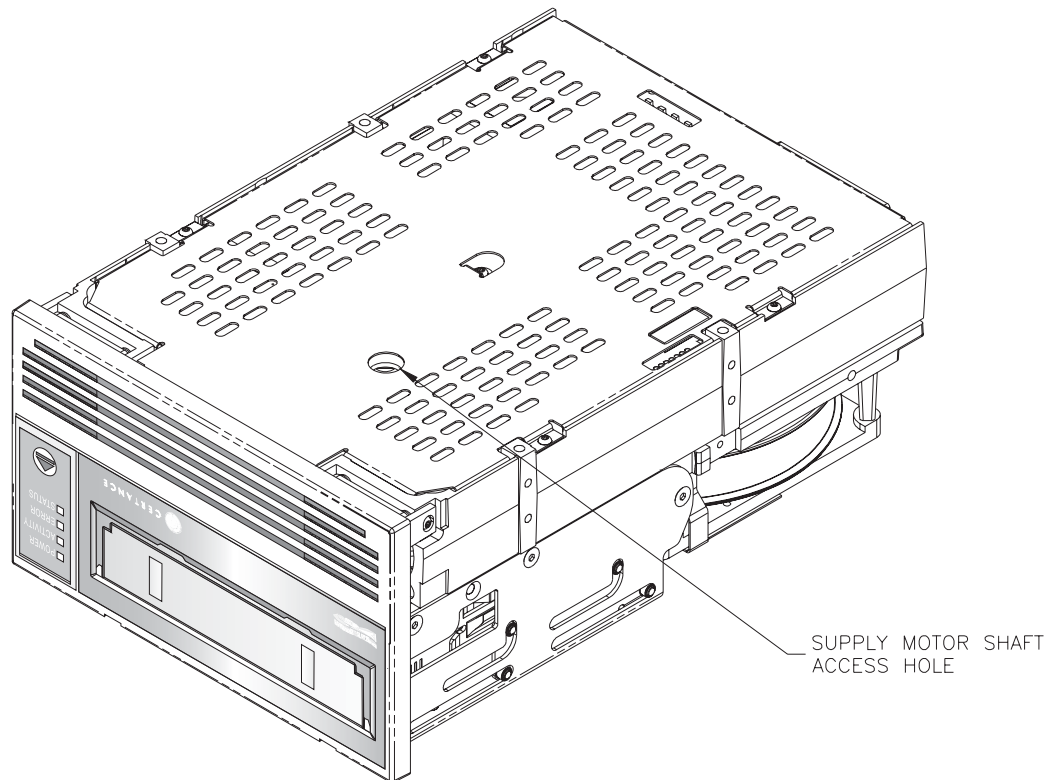

Figure 5. Underside of Drive Showing Supply Motor Access Hole
4. Insert the 1.5-mm hex wrench through the hole in the bottom plate shown in Figure 5 on page 6 **Error! Bookmark not defined.** Turn the hex wrench clockwise slowly and smoothly to rewind the tape into the cartridge. This may take some time.